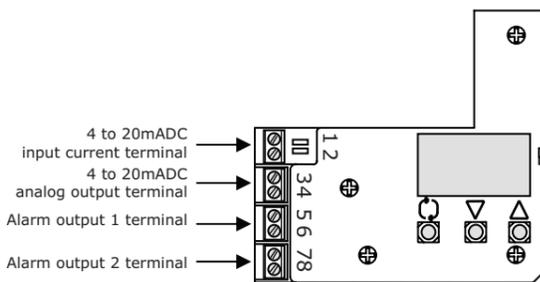

Fig. 8
- Connect input current wiring from an adjusting meter (controller) and each output wiring following Fig. 8.